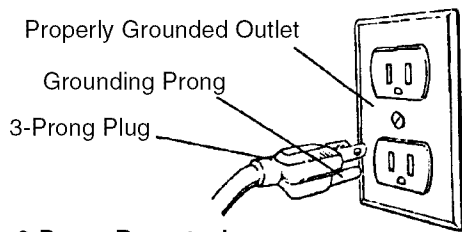

Figure 9 - 3-Prong Receptacle
- This tool is equipped with an approved 3-conductor cord rated at 150V and a 3-prong grounding type plug (see Figure 9) for your protection against shock hazards.
- Grounding plug should be plugged directly into a properly installed and grounded 3-prong grounding-type receptacle, as shown (Figure 9).